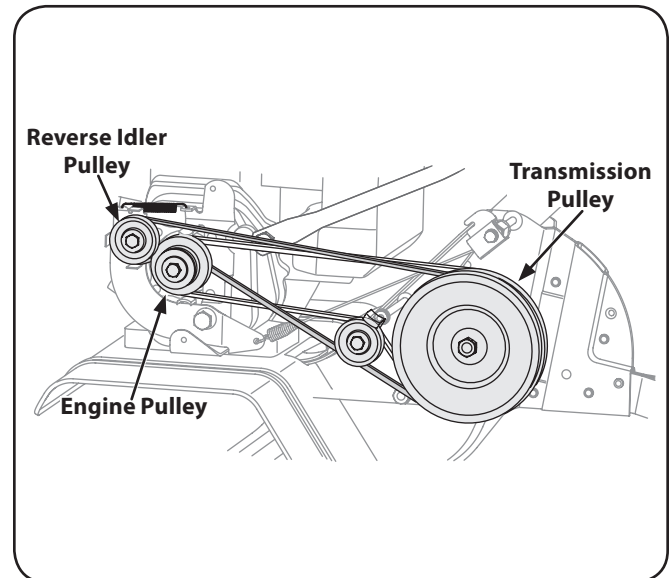

Figure 7-2
3. Remove belt from transmission pulley and then from around the reverse idler pulley. See Figure 7-2.
4. To reassemble the new belt, follow the instructions in reverse order. Be sure to place the wider side of the belt against transmission and idler pulley while slimmer side goes over the engine pulley. See Figure 7-2.
NOTE: Upon reassembly, make certain the belt is routed over the idler pulley and inside of belt keepers by engine pulley. See Figure 7-2.